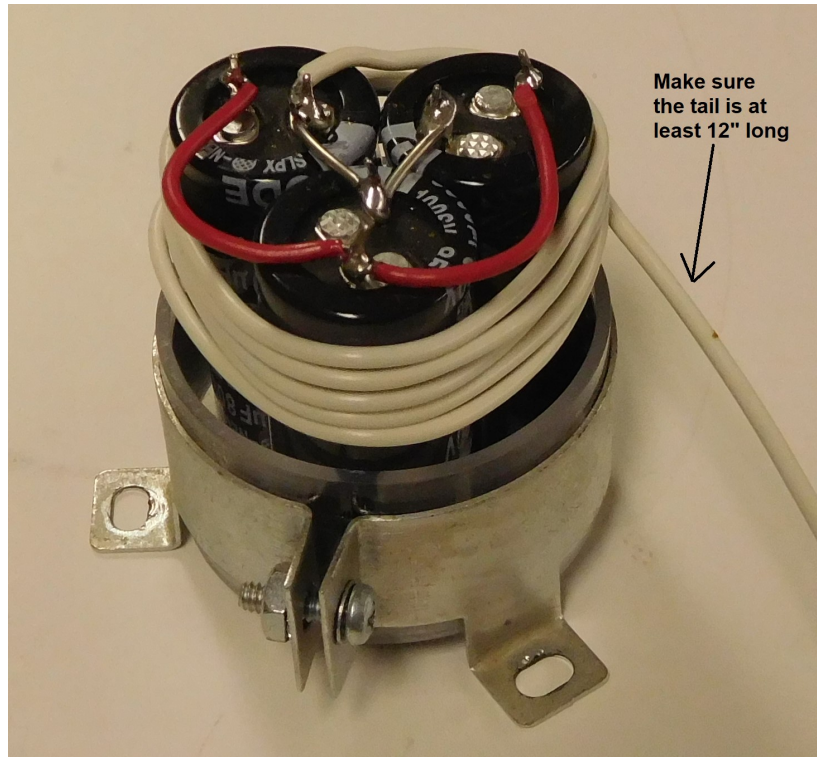

Figure 8-Adding the coil
9. Wrap 5¹ turns of wire around the top of the capacitors, as shown in Figure 8. Wrap the turns tightly, starting the first turn in the ridge near the top of the capacitors. You can add a layer of transparent tape² around the turns once they are in place, but it is not necessary. Leave the end of the wire at least 12" long.